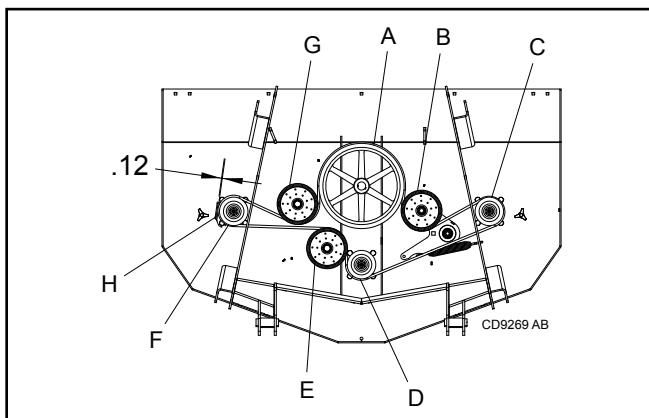

Figure 14. Belt Routing for TBW15.40 Wing Deck, TBW12.40 Rear Deck
- For decks in Figures 14 & 15, route belt around backside idler G. Slide belt under drive sheave A for all decks.